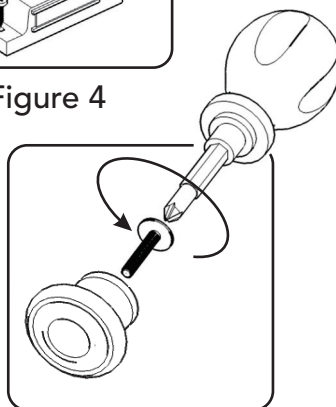

Figure 6
Assemble Knob to Door (J) with Machine Screws. (See Figure 6)